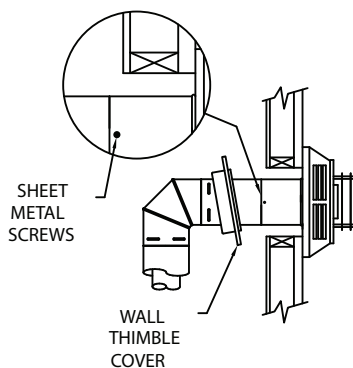

Figure 8
Step 5. Before connecting your horizontal Pipe Sections to the Horizontal Termination Cap, slide the Wall Thimble Cover over the Pipe Section nearest the interior side of wall (**Fig. 8**)
Step 6. Slide the appliance and vent assembly towards the wall, carefully inserting the Pipe Section into the cap assembly. It is important that the Pipe Section extends into the back of the Termination Cap with a minimum overlap of 1-1/4 inches. Use the two sheet metal screws provided to secure the Pipe Section to the back of the Termination Cap. The Wall Thimble Cover will cover the screw heads (**Fig. 8**).